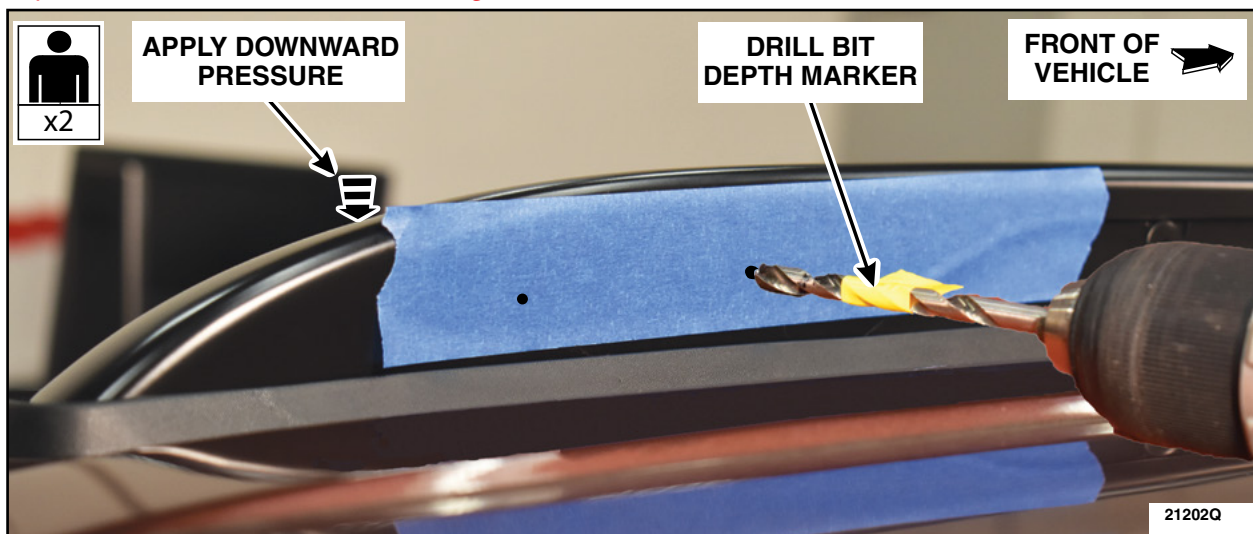

FIGURE 15
4. Set a depth gauge on the 15/64 drill bit at 25 mm (1 in). Having a second person apply downward pressure, drill out both marks. See Figure 15.